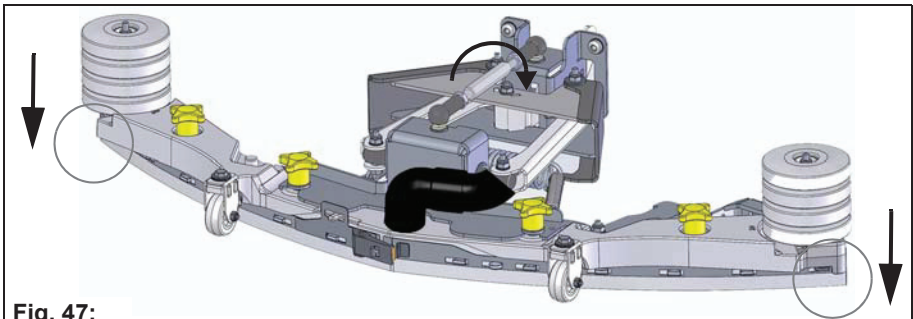

Fig. 47:
- Turn the threaded bar clockwise: The distance of the sealing strip to the ground decreases at the ends **Fig. 47**.